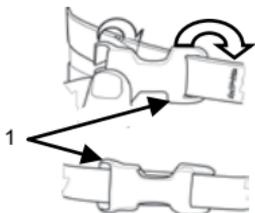

Figure 11. Attaching Female Quasm Buckle to Webbing.
1. Attach quasm buckles to webbing (Figure 11, Item 1).